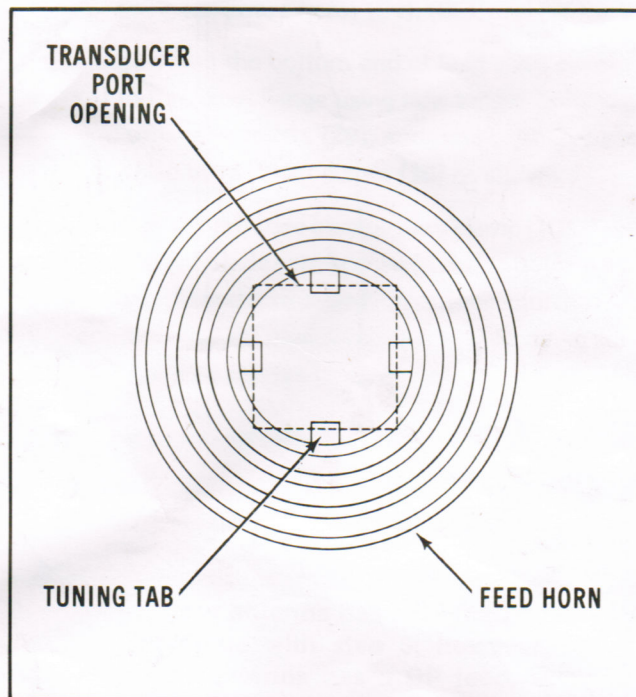

Figure 5. Orientation of Transducer To Feed Horn
PARTS LIST FOR FIGURES 5, 6, AND 7
STEP-BY-STEP DP FEED ASSEMBLY INSTRUCTIONS FOR FIGURES 5, 6, AND 7.
1. Install orthomode transducer (13) and cover mounting plate (14) to DP feed (12) using hardware items (20) and (22), eight places. Be sure to orient the transducer to the feed as shown in figure 5.
2. Install two LNCs or LNAs (as applicable) to transducer (13) using hardware items (24), (25), and (26), four places each unit.
3. Attach coaxial cables to each LNC or LNA and secure with cable tie (9) as shown. Make cable loop radius no larger than 5 inches.
4. Route the coaxial cables down along the groove in feed shaft support (6) and secure the cables to the support using three cable ties (9) equally spaced. Allow enough slack in cables at feed end so that they can rotate with the feed.
5. Install feed housing cover (15) on feed housing using hardware item (16), four places.